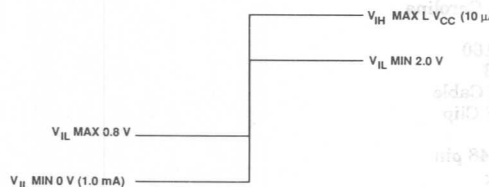

Figure 17. Lock to Reference and Byte Sync Enable Receiver Levels.
11. Figure 17 shows the receive levels for the Lock to Reference and Byte Sync Enable lines.